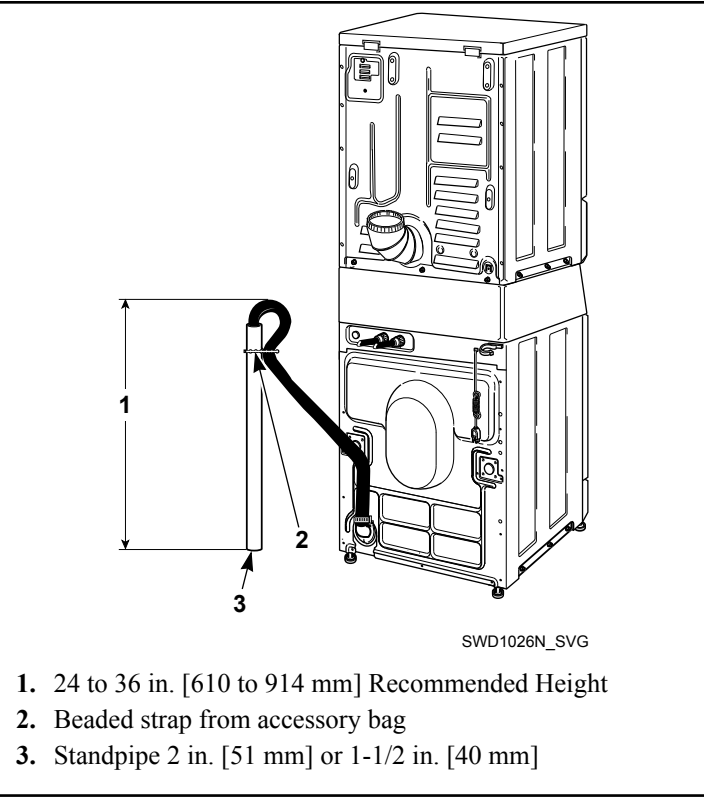

Figure 8
2. Remove the beaded tie-down strap from accessories bag and place around standpipe and drain hose and tighten strap to hold hose to standpipe. Refer to *Figure 8*. This will prevent the drain hose from dislodging from drain receptacle during use.